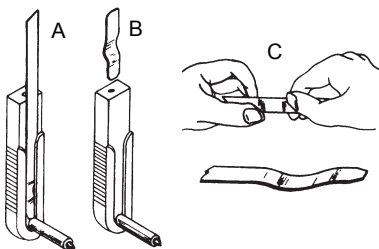

Fig. 5
Per il fissaggio sul braccio portapenna seguire la sequenza illustrata nella Fig. 5:
*Pens delivered with instruments or as spares are fitted with a protection of the tracing point: never remove this protection until the start up of recorder and avoid to touch the point with fingers. To fix spare pen on the instrument index follow the sequence as per Fig. 5:*